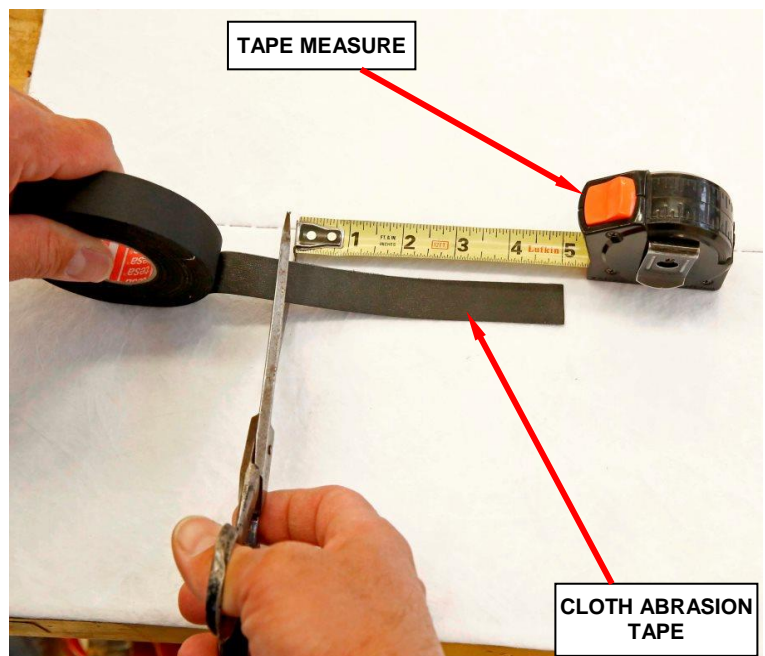

Figure 18 – Cut Two Piece of Cloth Abrasion Tape
44. Cut two pieces of cloth abrasion tape 5 inches (125 mm) long (Figure 18).